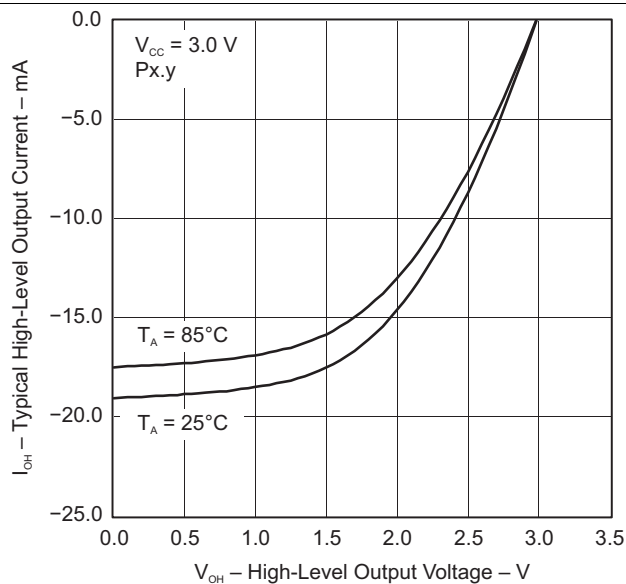
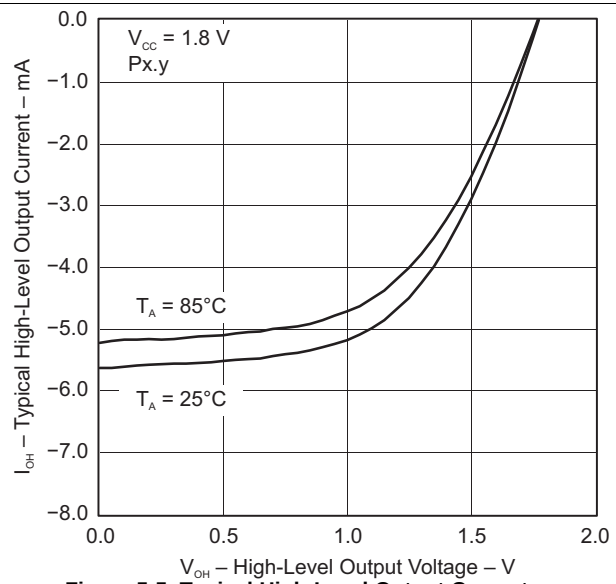

Figure 5-4. Typical High-Level Output Current vs High-Level Output Voltage
Figure 5-5. Typical High-Level Output Current vs High-Level Output Voltage
| V OH High-level output voltage(see Figure 5-4 and Figure 5-5) | I (OHmax) = –1 mA (2) | 1.8 V           | V CC – 0.25 | V CC        | V    |